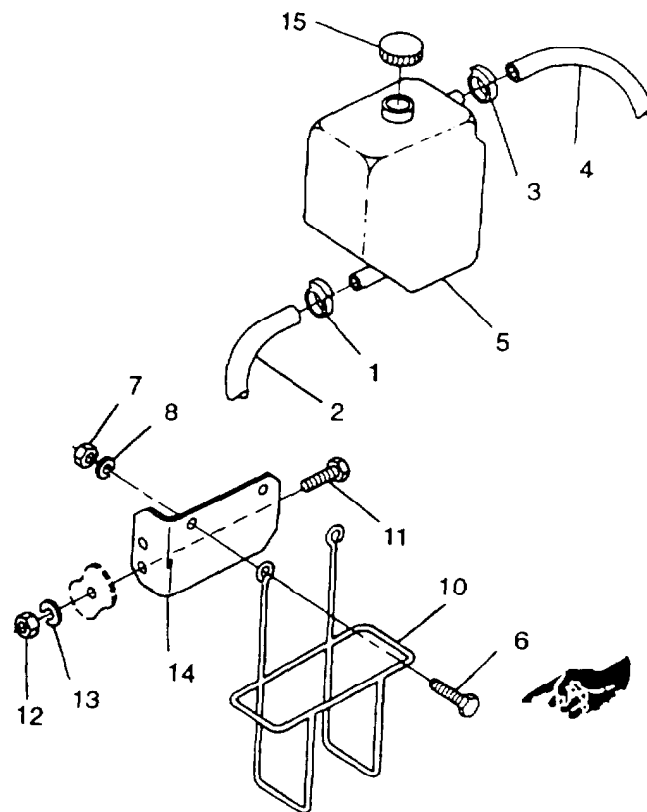

FIGURE 2-26. Coolant Recovery System
- c. Loosen clamp (1, FIGURE 2-26) and disconnect hose (2) from overflow bottle (5) and drain coolant into suitable container.
- d. Loosen clamp (3) and disconnect hose (4) from overflow bottle (5).
- e Remove overflow bottle (5) from wire holder (10).
- f. Remove bolts (6), nuts (7), lockwashers (8), and wire holder (10) from mount (14).
- g Remove bolts (11), nuts (12), lockwashers (13), and mount (14) from engine.
- a Install mount (14, FIGURE 2-26) on engine with bolts (11), nuts (12), and lockwashers (13)
- b. Install wire holder (10) on mount (14) with bolts (6), lockwashers (8), and nuts (7).
- c Install coolant overflow bottle (5) in holder (10) and connect hoses (2) and (4) with clamps (1) and (3)
- d Remove cap (15).
- e. Fill overflow bottle (5) with coolant to the COLD level. Refer to TABLE 2-1 for proper coolant.
- f. Install cap (15)
- h. Remove cap (15).
- i. Add coolant to HOT level of overflow bottle (5).
- j. Install cap (15) and close left side engine access door.